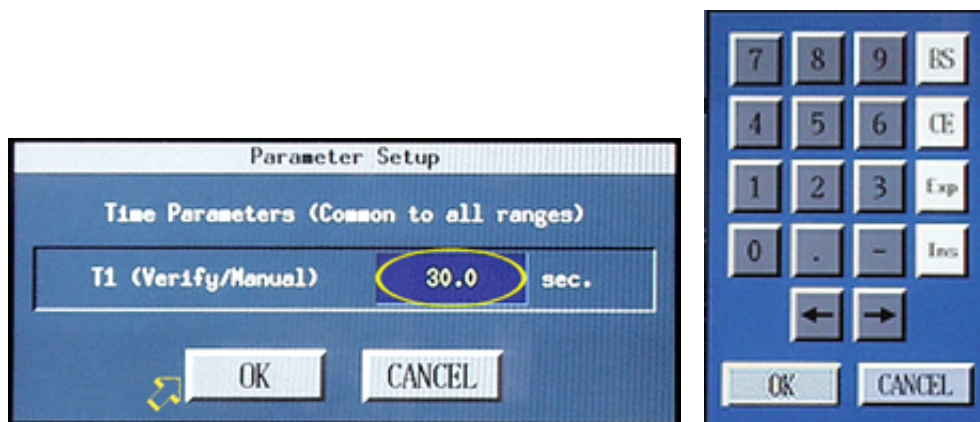

Figure 35
- 142 For “T1” click in the adjacent field. See the circle in Figure 35. Use the on-screen keypad to enter 30 then click on “OK.” See the arrow in Figure 35.